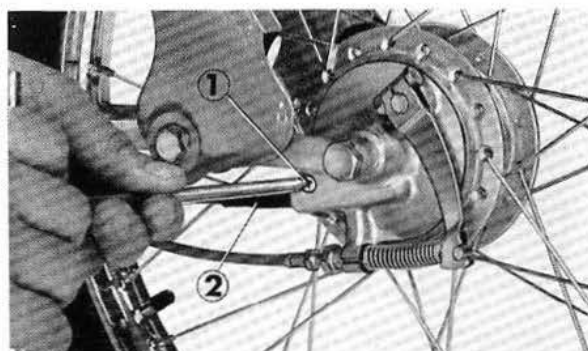

Fig. 4-1 ① 4×16 cross screw
2. Unscrew the 4×16 screw and disconnect the speedometer cable. (Fig. 4-1)